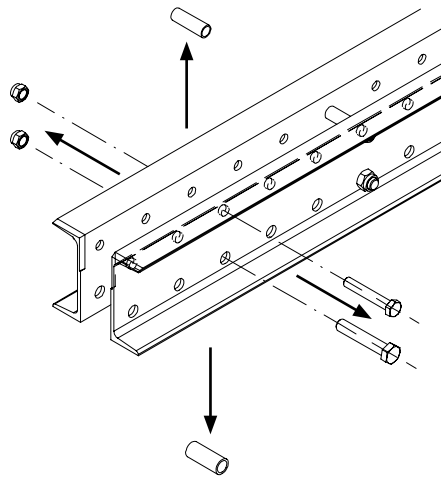

Fig. B2.01a
3. Remove the external spacers. (Fig. B2.01a)
- After the bolts have been removed, five rows of holes must then be free up to the next pair of bolts. (Fig. B2.01a)